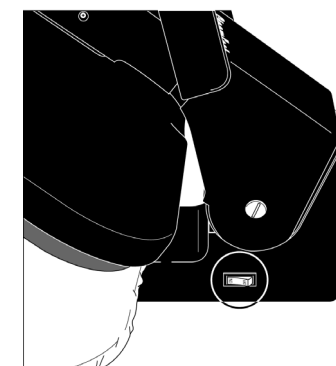

FIGURE 1
1. With Pressing Plate in lifted position, plug power cord into electrical outlet, and set On/Off Switch to “On” (I) position (FIGURE 1).
IMPORTANT: Auto Shut-Off does not mean that power to the unit is totally cut off. Power is always on, and the Power Indicator Light will remain illuminated until On/Off Switch is set to "Off" (O) position (FIGURE 1, page 7).